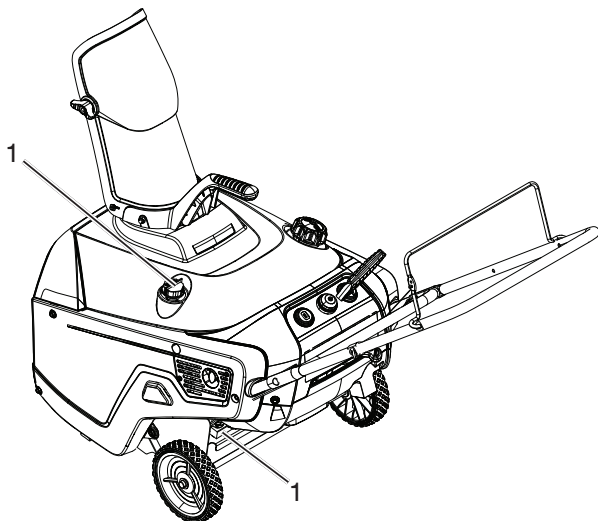

Figure 24
7. Clean around the oil filler cap/dipstick (Figure 24).
8. Unscrew the oil fill cap/dipstick and remove it (Figure 24).